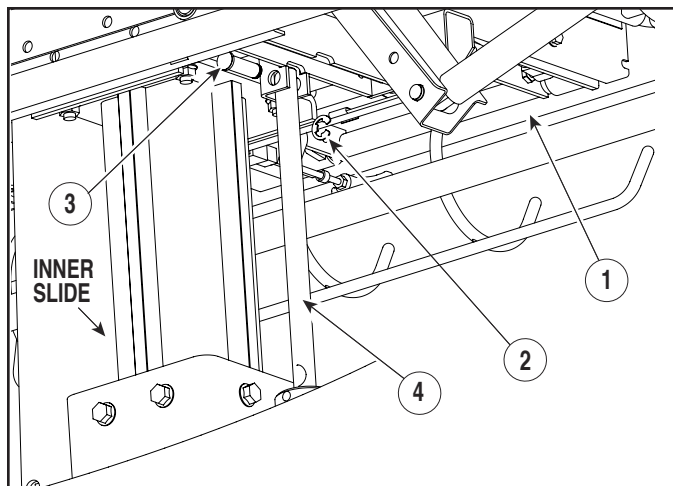

Figure 4-11. Litter Top Removal / Installation
- (1) Lower litter top (1, Figure 4-11) as far as it will go.
- (2) Lower bellows for access (Refer to para 4.3).
- (3) Remove C-clip ring (2) and clevis pin (3) which attaches litter top (1) to hydraulic pump.
- (4) With the help of an assistant, lift evenly at each end of the litter top (1) until the inner slide is free of the outer slide.